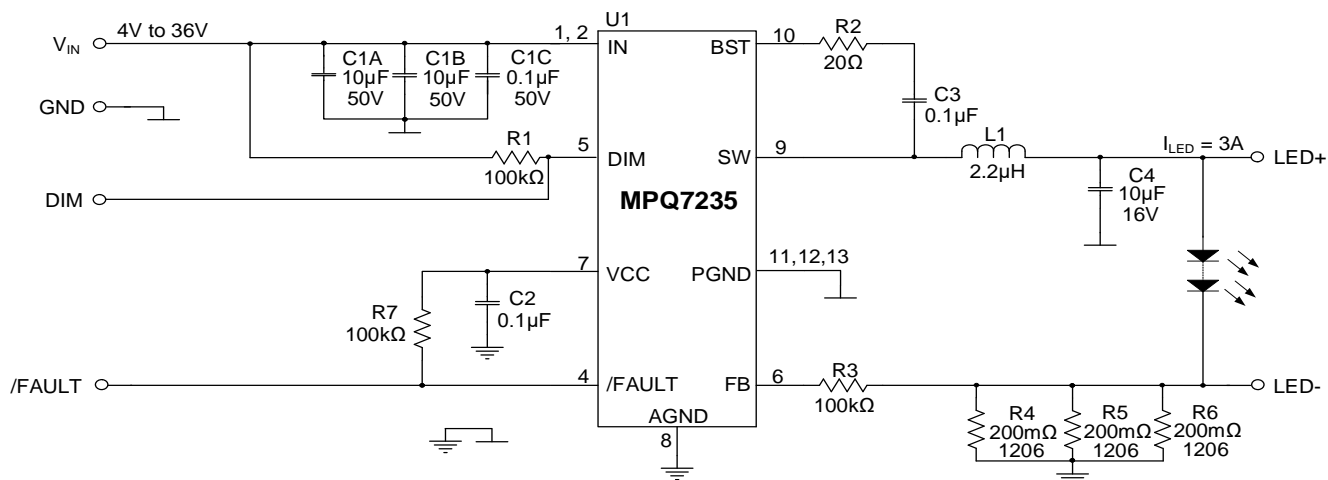

Figure 8: Typical Application Circuit ($I_{LED} = 3A$)
12) The recommended PCB layout is based on the Typical Application Circuit (see Figure 8 on page 28).